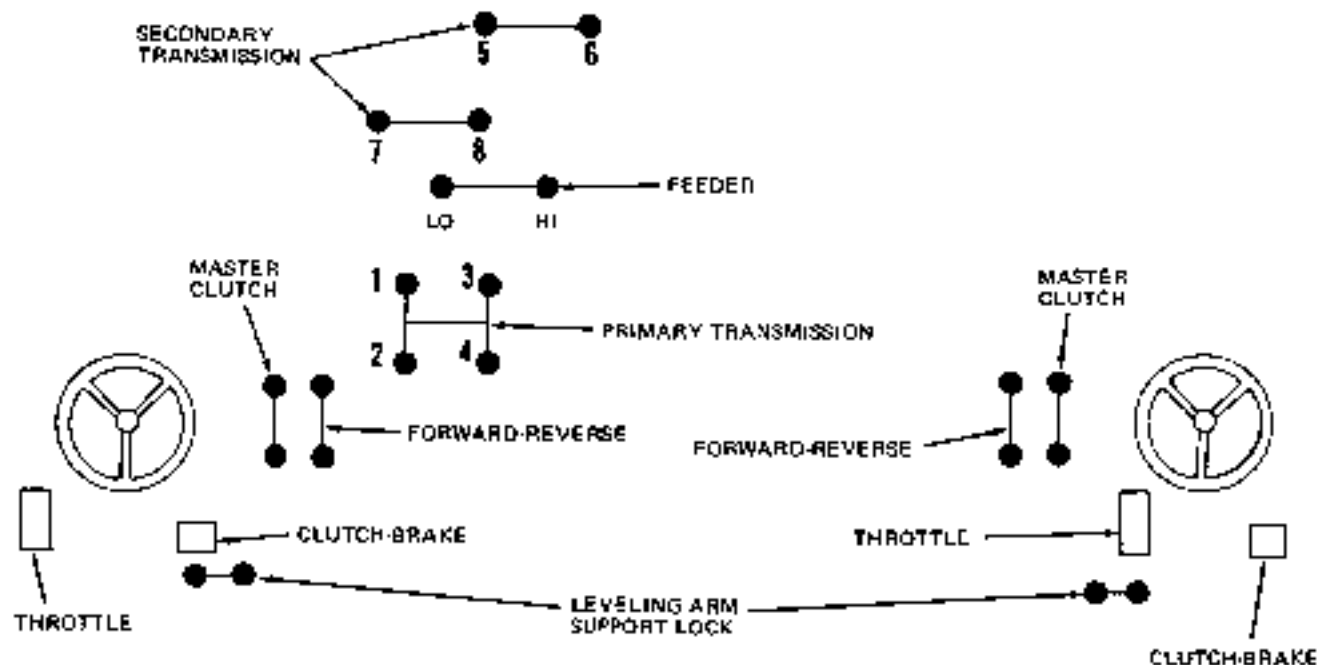

FIGURE C-5 - Transmission and Lever Direction Chart
TO ENGAGE PAVING AND TRAVEL SPEEDS (Refer to Figures C-5 and C-6.)
2. Shift Main Transmission lever to position to obtain desired speed. (1, 2, 3 or 4) Refer to Chart, Figure C-5.